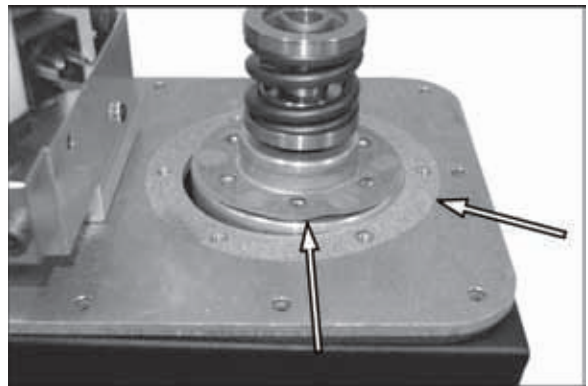

Figure 34.
3. See Figure 34. Remove the gasket and clean the gasket surfaces.